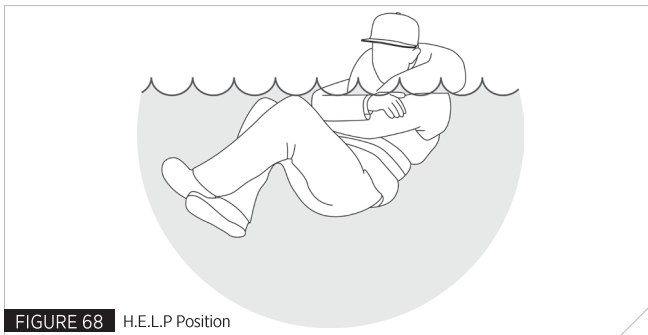

FIGURE 68 H.E.L.P Position
3. Use the standard H.E.L.P. position when wearing a PFD, drawing the legs up to a seated position, because doing so will help you conserve body heat (Fig. 68).